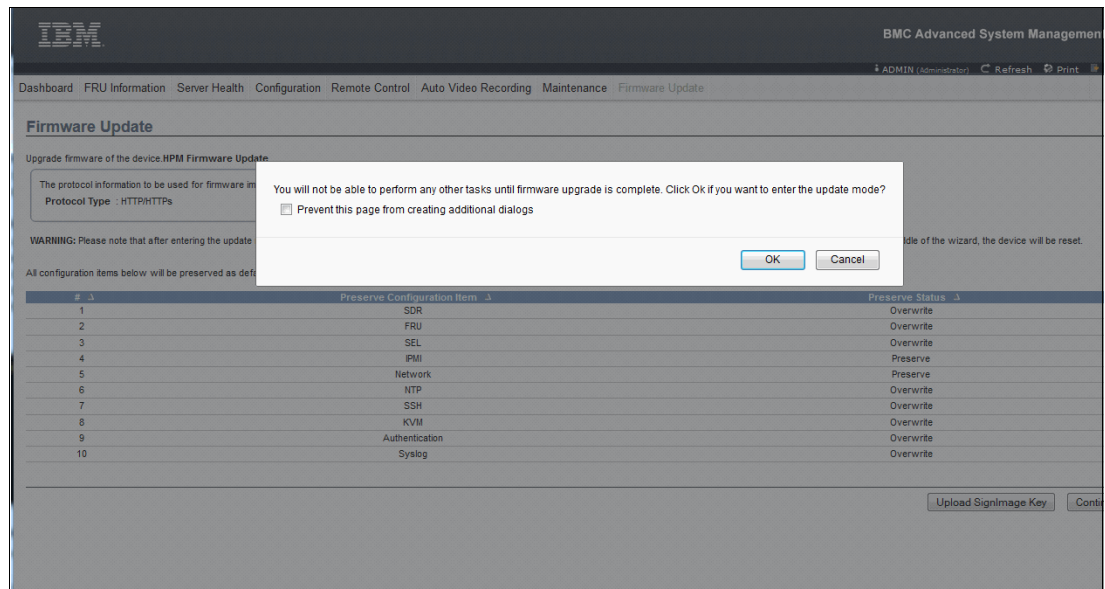

Figure 2-4 Confirm firmware update mode
- The next window prompts whether you want to continue to the update mode, as shown in Figure 2-4. Until the firmware update is completed, no other activities can be performed in the Advanced System Management Interface. If you want to proceed, click **OK**.